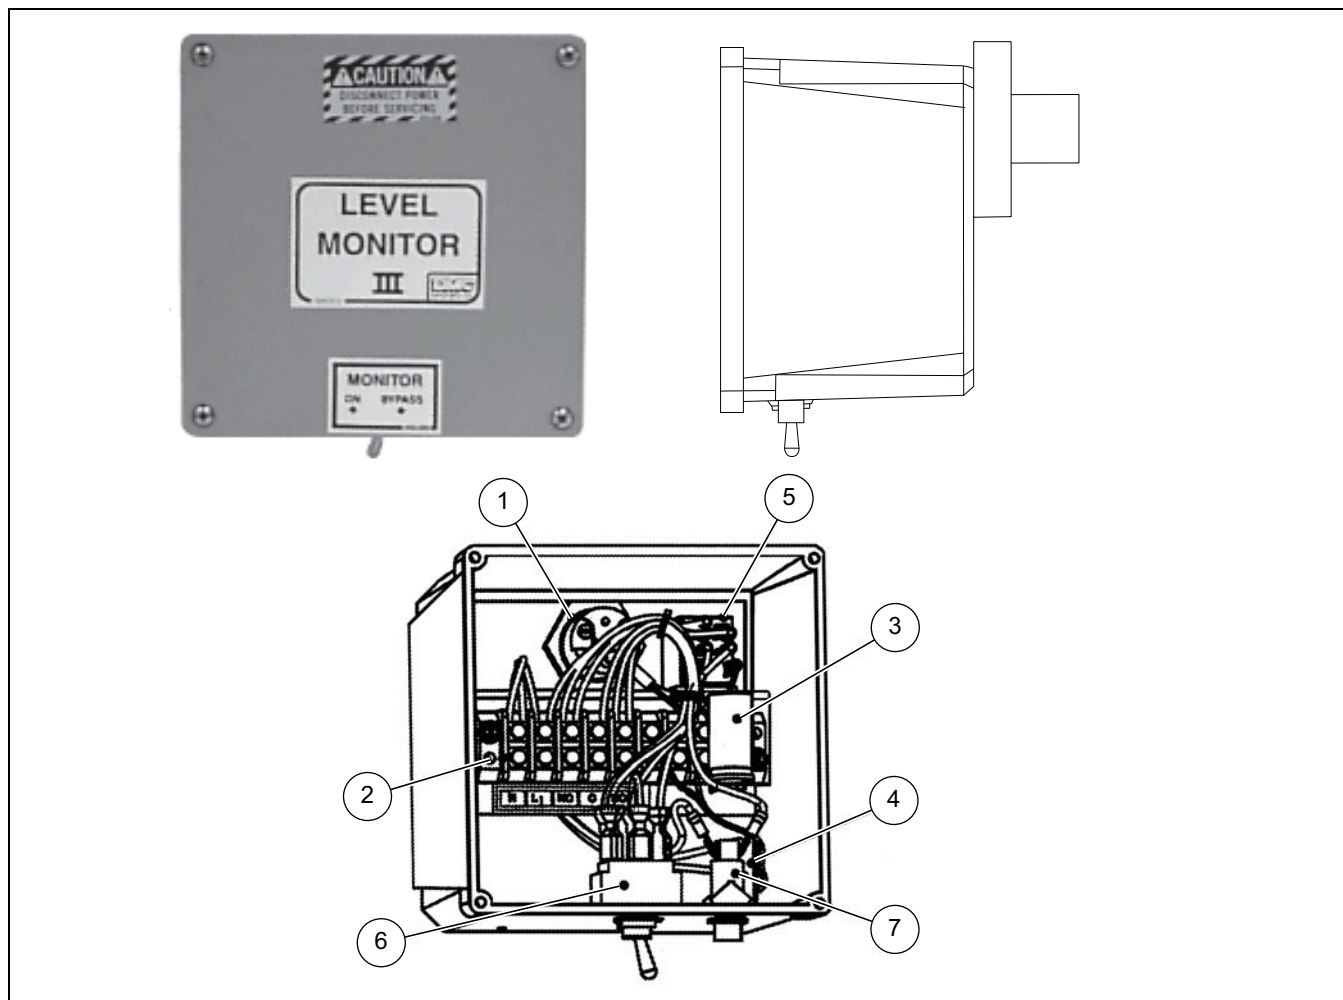

Figure 3B
1. A 115 Volt AC will be hooked to the terminal strip marked (N) and (L1). Connect the ground wire to the bin mounting bolt. (See Figure 3B.)